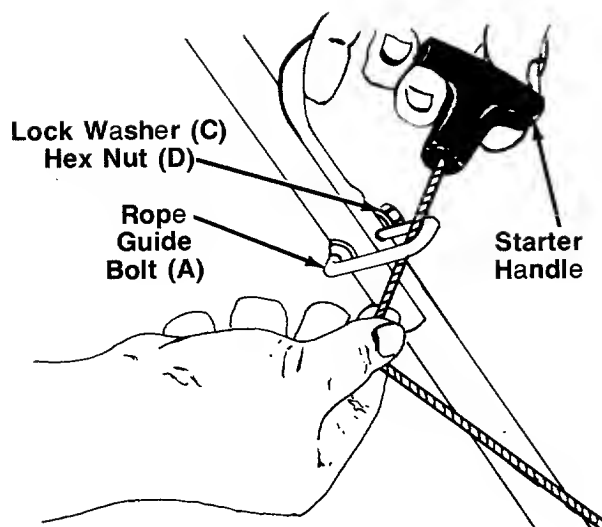

FIGURE 4.
5. Insert the rope guide bolt (A) through the right hand side of upper and lower handle. See figure 4. Secure with lock washer (C) and hex nut (D), finger tight only.
9. Slip the starter rope into the rope guide bolt as shown in figure 4. If more slack is needed in the starter rope, disconnect and ground the spark plug wire. Depress the blade control handle and pull additional rope out from the engine.